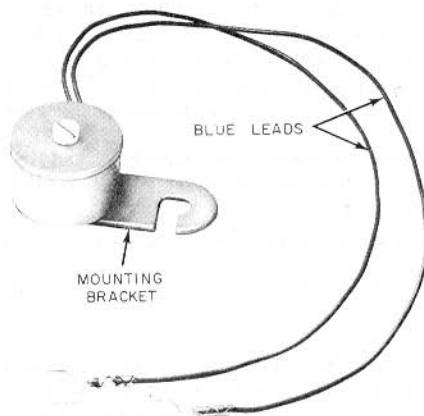

Fig. 7—KS-20419L1 Buzzer
2.12 The miniature KS-20419L1 buzzer (Fig. 7) is 3/4-inch in diameter, 1/2-inch thick, and is equipped with two spade-tipped leads 7-1/2 inches long.